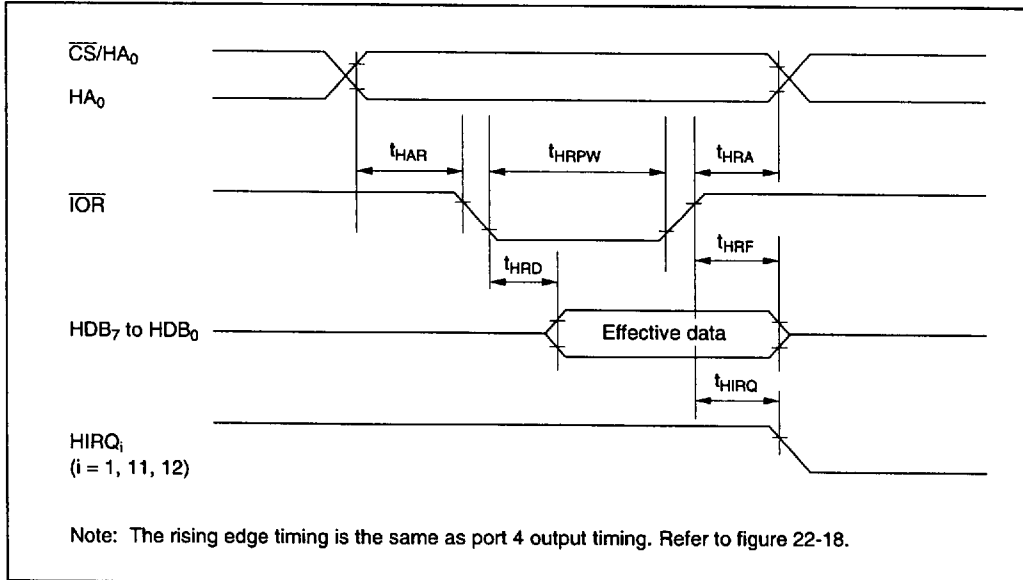

Figure 22-19 Host Interface Read Timing
22.3.8 Host Interface Timing (H8/3337 Series Only)	Figures 22-19 and 22-20